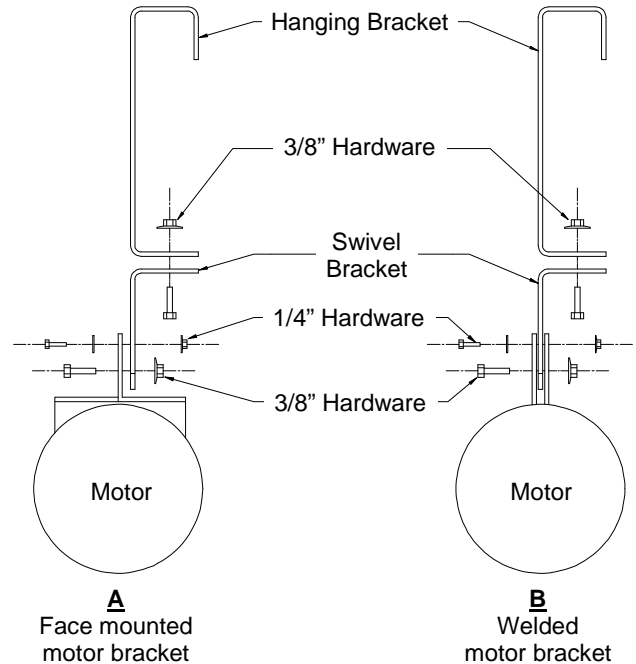

Figure 1. Swivel bracket mounting — motor end view (fan guard and blade omitted for clarity)
- 2) Use the remaining 3/8" bolt & nut to attach the swivel bracket to the hanging bracket as shown in Figure 1.